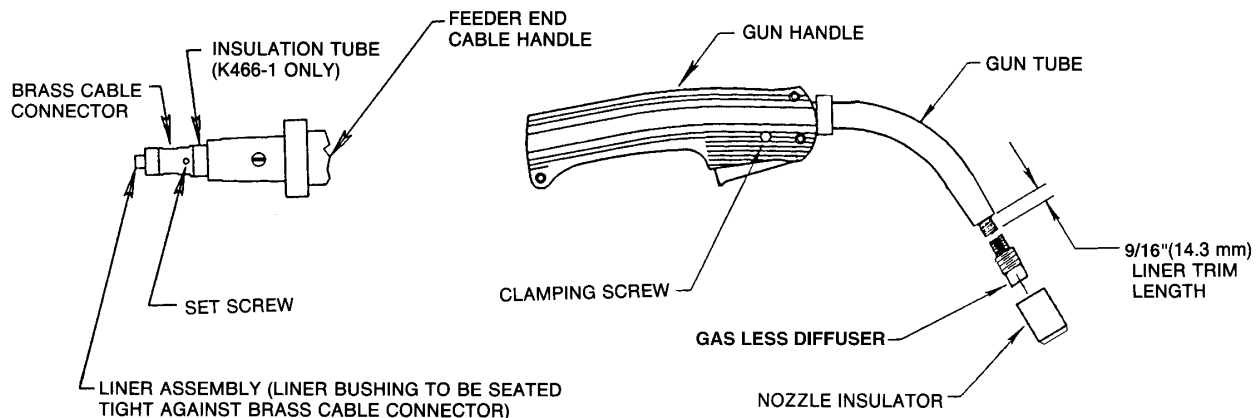

Figure 1
- a. Remove brass cable connector and insulation tube (see Figure 1) from the K466-1 kit. Slide the insulation tube onto the connector from the threaded end and screw it onto the feeder end of the gun cable. Tighten the connection with the wrench provided.
- a. Remove brass cable connector (see Figure 1) from the K466-2 kit and screw it onto the feeder end of the gun cable. Tighten the connection with the wrench provided.
- a. Remove brass cable connector (see Figure 1) from the K466-3 kit and screw it onto the feeder end of the gun cable. Tighten the connection with the wrench provided.
- a. Remove brass cable connector (see Figure 1) from the K466-4 kit and screw it onto the feeder end of the gun cable. Tighten the connection with the wrench provided.
- Remove brass cable connector (see Figure 1) from the K466-5 kit and screw it onto the feeder end of the gun cable. Tighten the connection with the wrench provided.
- Remove brass cable connector (see Figure 1) from the connector kit and screw it onto the feeder end of the gun cable. Tighten the connection with the wrench provided.
- e. Be sure the cable is straight and then trim the liner to the length shown in Figure 1 (a gauge is included on the wrench provided with the connection kit for gauging the cut-off length). Remove any burrs from the end of the liner.
Loosen set screw located in the brass cable connector at the wire feeder end of the cable using the same 5/64 (2.0 mm) Allen wrench. Pull liner out of cable. (REFER TO FIGURE 1 IN INSTALLATION FOR EACH)